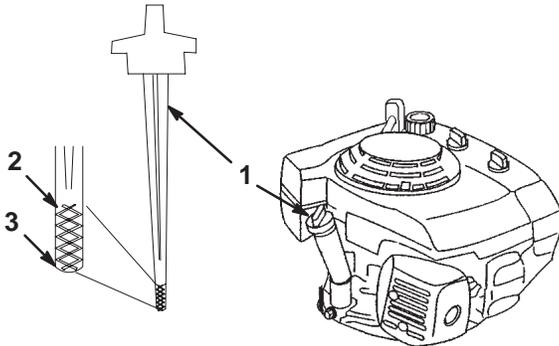

Figure 5
Before each use, ensure that the oil level is between the lower limit and upper limit marks on the dipstick (Fig. 5).
2. Clean around the dipstick (Fig. 5).
6. Read the oil level on the dipstick (Fig. 5).
7. If the oil level reading is below the lower limit mark on the dipstick, remove the dipstick and **slowly** pour only enough oil into the filler hole to raise the oil level to the upper limit mark on the dipstick (Fig. 5).